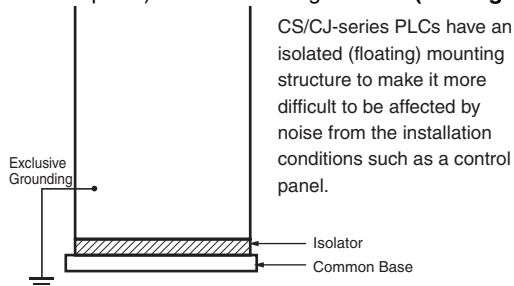

Figure 13. Example: Insulating and Grounding an Enclosure
- ① If the same ground is used for both the signal lines and the enclosure, isolate the channel base (a grounded metal plate inside a control panel) with an insulating material. (See Figure 13)